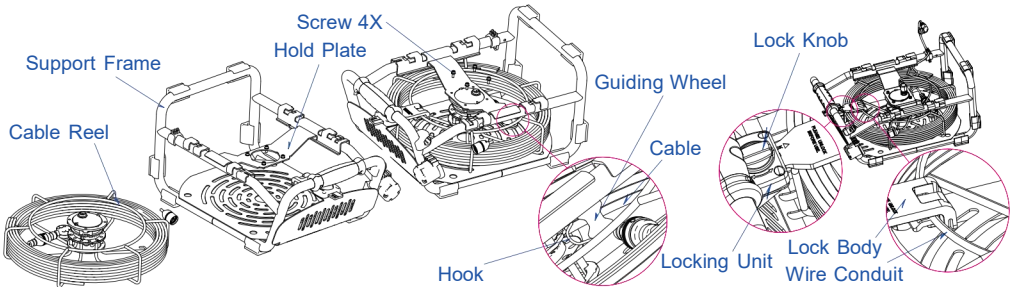

Figure 6. Install and locking Cable Reel
1. Install the reel and secure the cable (Figure 6.)